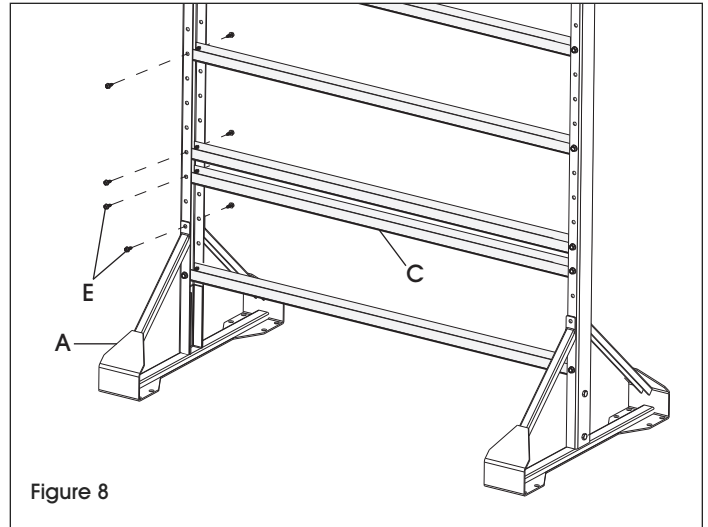

Figure 8
Attach crossbars (C) to the fifth and sixth holes up from the bottom using #14 sheet metal screws (E). Skip three holes, attach the remaining crossbars after every third hole. (See Figure 8)
NOTE: Attach each base assembly (A) to the third hole up using #14 sheet metal screws (E). (See Figure 8)